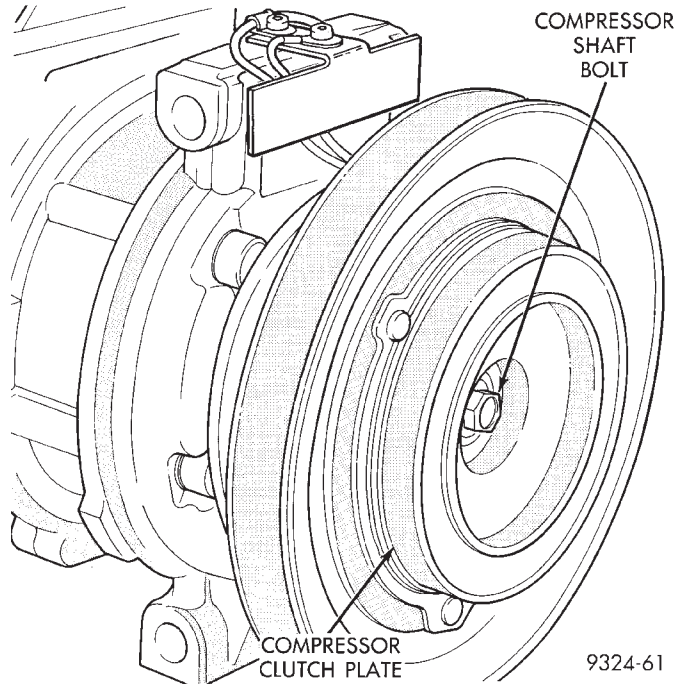

Fig. 30 Compressor Shaft Bolt and Clutch Plate
- (1) Remove the compressor shaft bolt (Fig. 30). A band type oil filter removal tool can be placed around the clutch plate to aid in bolt removal.